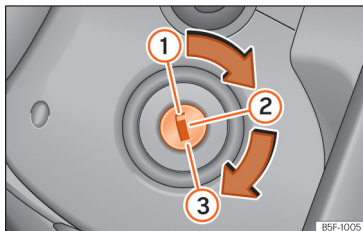

Fig. 215 Ignition key positions.
In this position » Fig. 215 ① the ignition and the engine are off and the steering may be locked.
- Turn the ignition key to the starting position » Fig. 215 ③.
- Turn the ignition key to position » **Fig. 215**  2. The warning lamp  will light for engine pre-heating.
- Turn the ignition key to position » **Fig. 215** .
- Remove the ignition key in position » **Fig. 215**  » .